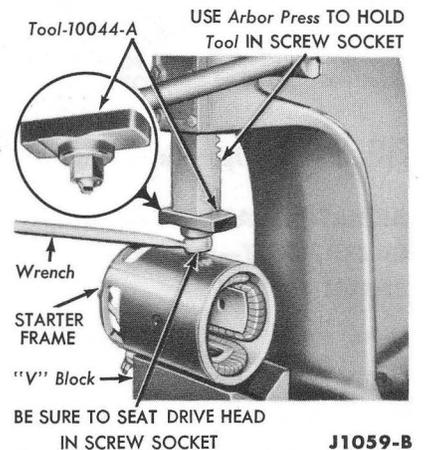

FIG. 11—Pole Shoe Screw Removal
9. Remove the three coil retaining screws, using tool 10044-A and an arbor press (Fig. 11). The arbor press prevents the wrench from slipping out of the screw. Unsolder the field coil leads from the terminal screw, and remove the pole shoes and coils from the frame.